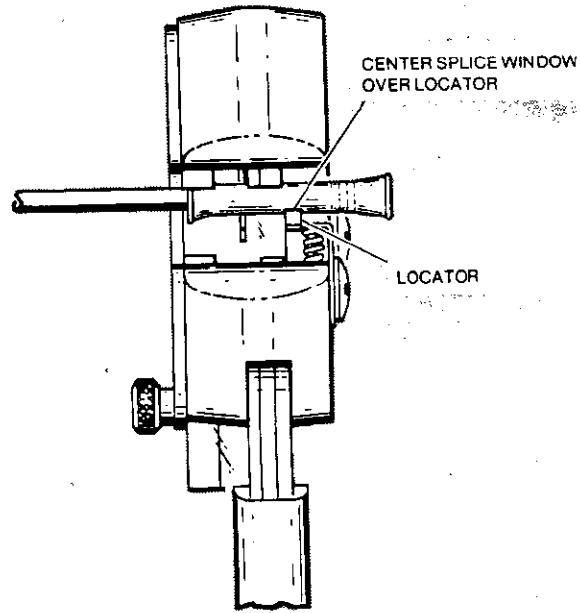

Figure 4
- Place splice in crimping dies with splice window over locator as shown in Figure 4.